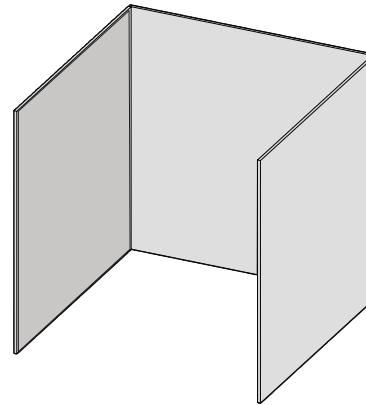

Fig. 1
- The appliance is considered outdoors if installed in a shelter with walls on three sides but no overhead cover. **(Fig 1)**.